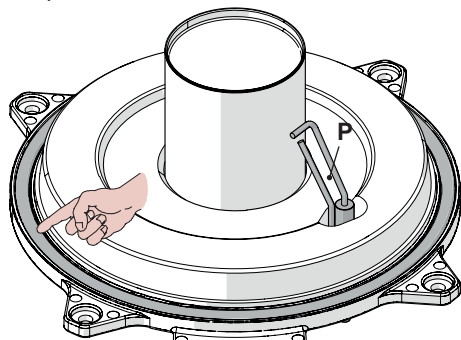

Fig. 10.12
- The silicon seal on the front wall of the combustion chamber Fig. 10.12 must be replaced if worn.
- The ignition/detection electrode "P" in Fig. 10.12 also functions as a sensor for the correct drainage of the condensate. Should the mentioned electrode come into contact with the condensate water present within the combustion chamber it sends the boiler into safety lockout. Therefore, should the insulation be wet or deteriorated, provide for the substitution of the same.
**Caution:** After any periodical servicing or disturbance the combustion chamber silicon seal Fig. 10.12 must be fully inspected and replaced at the discretion of the service engineer.